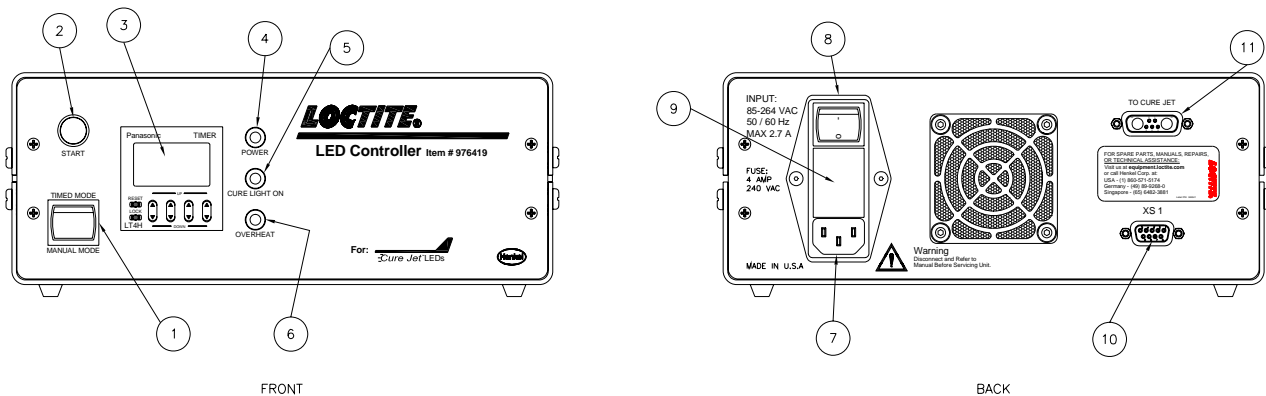
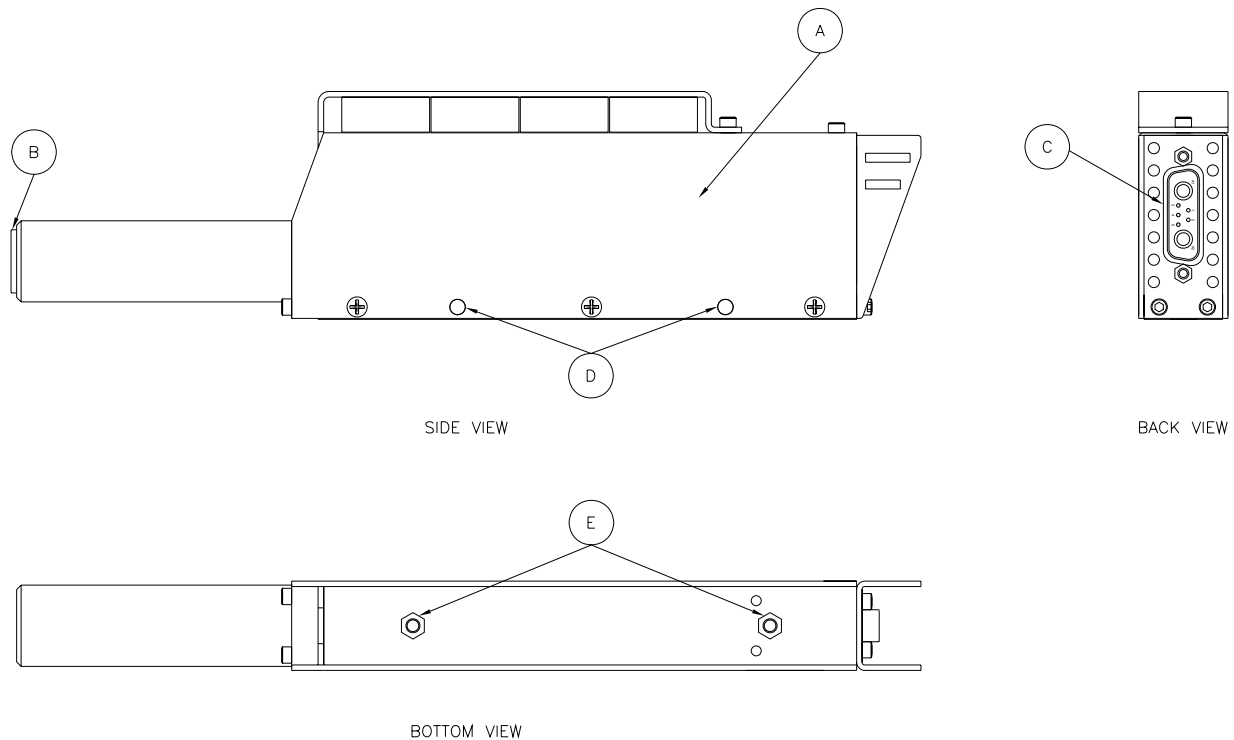
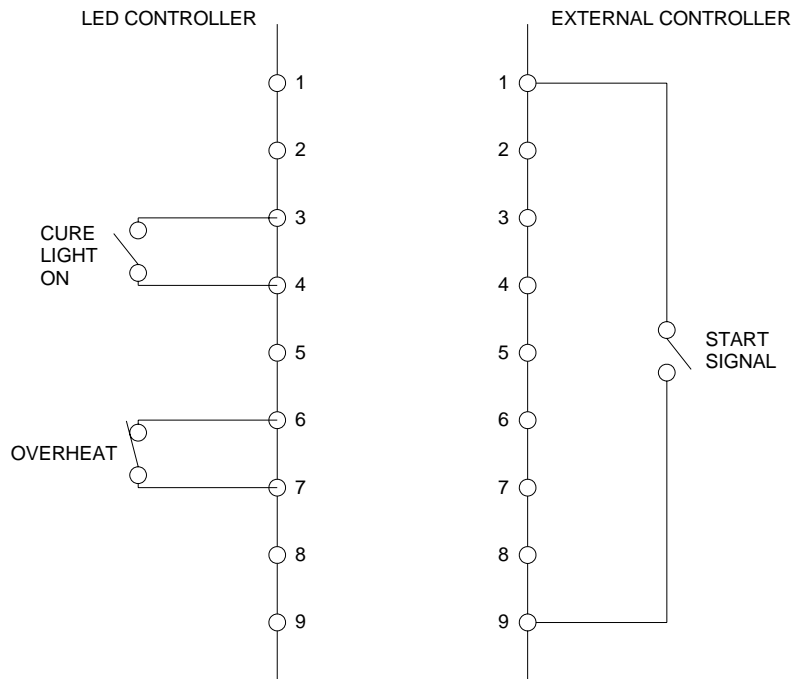

Figure 1
Figure 2
Figure 3. XS 1 Wiring Diagram
2.2 Operating Elements and Connections, refers to Figure 1
4.1 Installation, refers to Figures 1 and 2
- A. Holes (D) on the sides of the Cure Jet™ are properly sized for M4 screws. If you wish to mount the Cure Jet™ to the side of the LED Controller, kit is included.
- B. Tapped inserts (E) on the bottom of the Cure Jet™ are for M4 screws. Do not thread screws deeper than .25 inches (6.35mm).
3. Using either Loctite® Cables P/N 1008352 or 1008353, connect the Cure Jet™ to the LED Controller (Figure 2 Item C to Figure 1 Item 11).
4. If it will be used, plug in Foot Switch to LED Controller (Figure 1 Item 10).
5. Plug in AC Line Cord to LED Controller (Figure 1 Item 7).
1. Turn on the On/Off Switch on the back of the LED Controller unit (Figure 1 “8”).
3. If Timed Mode is desired, set Mode Switch (Figure 1 “1”) to Timed Mode and program the control timer (Figure 1 “3”) to the desired exposure time.
4. Depress Start Button (Figure 1 “2”) or Foot Switch to activate light.
The LED Controller can communicate with an external controller (such as a PLC) via the XS 1 port (Figure 1 “10”). This port offers 2-way communication for actuation of the Cure Jet™ and relaying of pertinent information back to the PLC. There are 3 signals on the port: Start (NO), Overheat (NC), and Cure Light On (NO). See Figure 3 for wiring schematic.